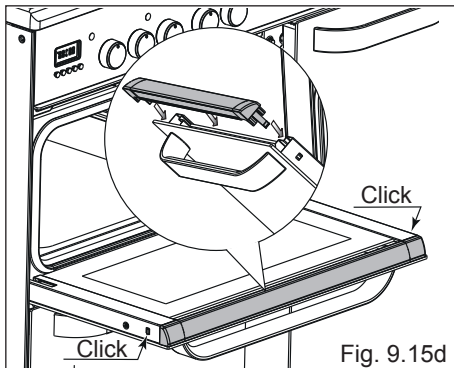

Fig. 9.15d
- Gently push the glass retainer back into place. You should be able to hear the tabs on both sides click as they lock the glass retainer in (fig. 9.15d).